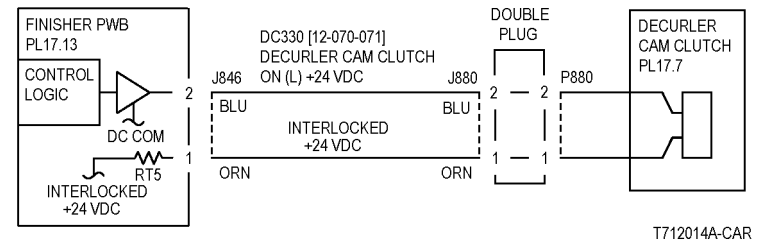

Figure 5 Decurler Cam Clutch CD
Press Stop. Check the circuit of the Decurler Cam Clutch (Figure 5). Refer to **OF 99-4 RAP** for troubleshooting procedure.
- Ensure that the connectors shown in the circuit diagrams (Figure 4, Figure 5, Figure 4, Figure 5) are securely connected and that the wires are not damaged.